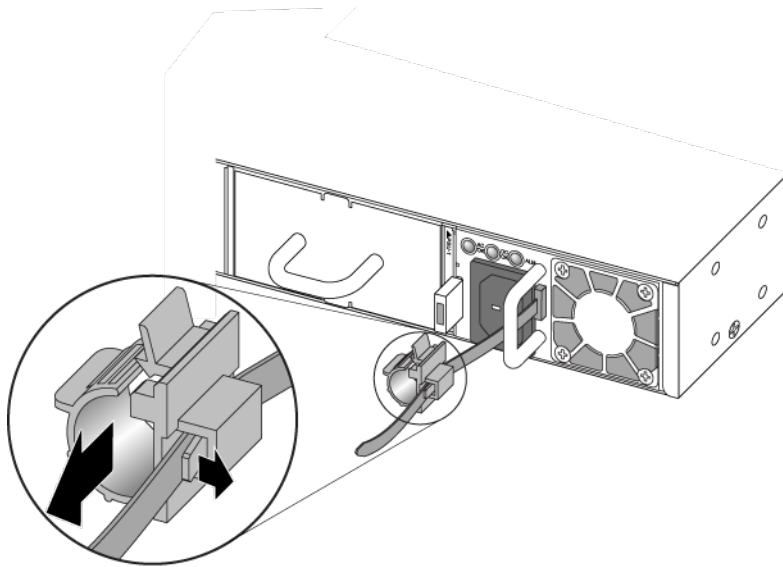

Figure 165: Moving the Power Cord Retainer
- a If necessary, slide the plastic cord retainer farther away from the back of the switch (see Figure 165).